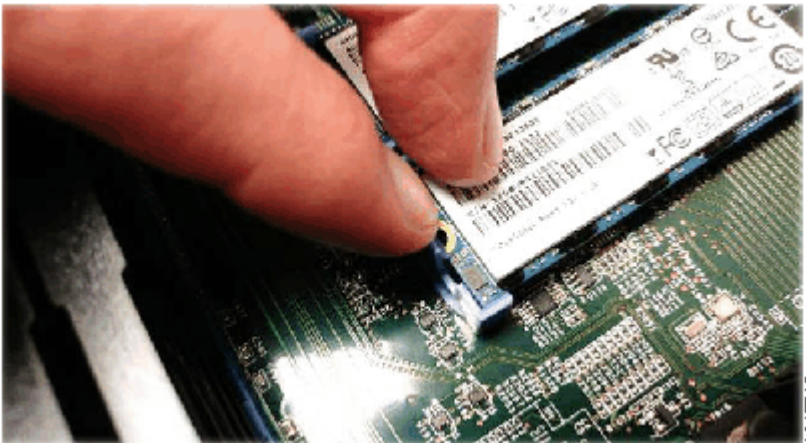

Figure 94. Removing the boot drive
IBM Storage FlashSystem node canisters have dual boot drives. Figure 94 on page 143 and Figure 96 on page 144 show examples of a dual boot system. You can run with one boot drive only, and you get a non-fatal error for the second failed one. See “Procedure: Understanding system volume dependencies” on page 107 to check for dependencies before you shut down the node.
7. Gently open the blue friction latch, as shown in Figure 94 on page 143. Apply gentle pressure; do not force the latch open.